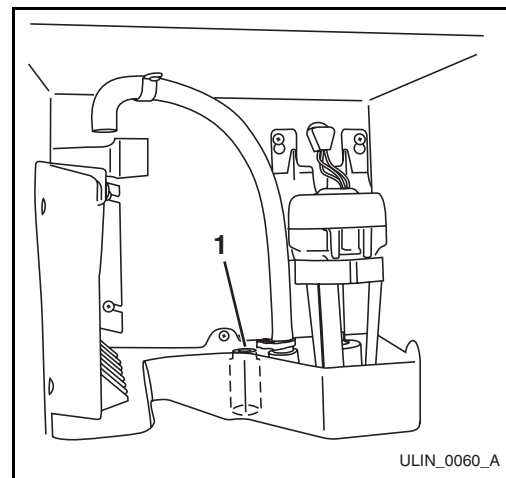

Figure 11
4. Remove the overflow tube (**Figure 11, 1**) by lifting it up while using a slight back and forth motion to loosen